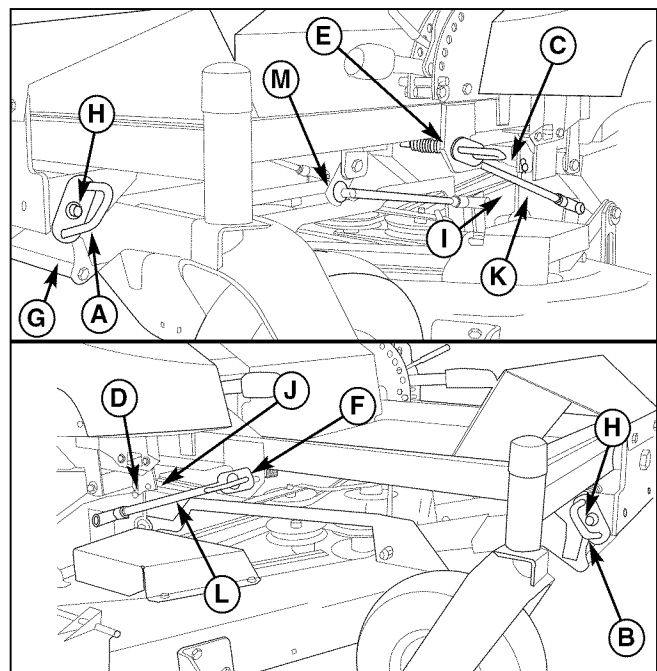

Figure 13. Mower Installation & Removal
7. Pull the hair pins (C & D, Figure 13) and disconnect the deck leveling links (I & J). Pull the hair pin and disconnect the roller bar connecting rod (M). Pull and turn the rod locks (A, B, E & F) to release the rod ends.
8. Lift the front of the deck using a 2 x 4 as a lever, pull the handle (G) forward to release the front hangers rod ends (H), then push rearward to release the rear rod ends.